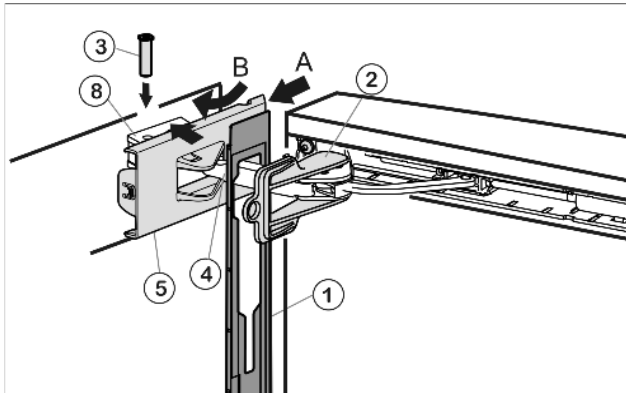

Fig. 42
- ▶ Hook panel Fig. 42 (1) into the damper bracket Fig. 42 (4) such that the detent hooks are pointing inwards and the front side is facing the appliance.
- ▶ Push on cover Fig. 42 (5) from the outside (A) and pivot over the bearing part Fig. 42 (8) (B).
- ▶ Place cover Fig. 42 (5) on top and allow to snap into place until the first notch.
- ▶ Pull damper bracket Fig. 42 (4) towards bearing part and insert bolt Fig. 42 (3) from above such that the square is resting in the recess.
- ▶ Now snap cover Fig. 42 (5) completely into place on the bearing part Fig. 42 (8).
- ▶ Remove locking device Fig. 42 (2) by twisting it.
- ▶ Snap panel Fig. 42 (1) into place on the door.